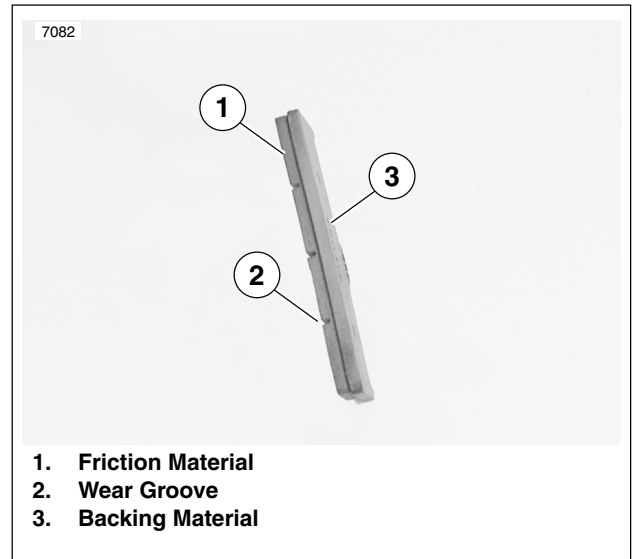

Figure 1-15. Brake Pad Thickness
See Figure 1-15. Inspect brake pads for damage or excessive wear. Replace both pads as a set if friction material (1) of either pad is worn to 0.04 in. (1.0 mm) or less. If this amount of wear occurs, wear grooves (2) will disappear from friction material surface.